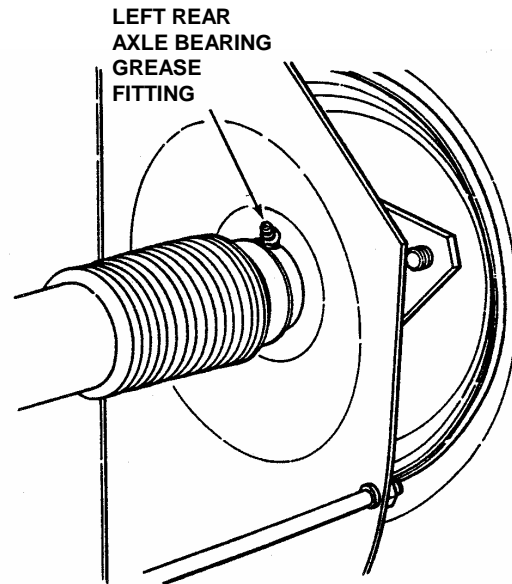

FIGURE 3.7
1. The left rear axle bearing on 28" machines requires three shots of general purpose grease from grease gun. See Figure 3.7.